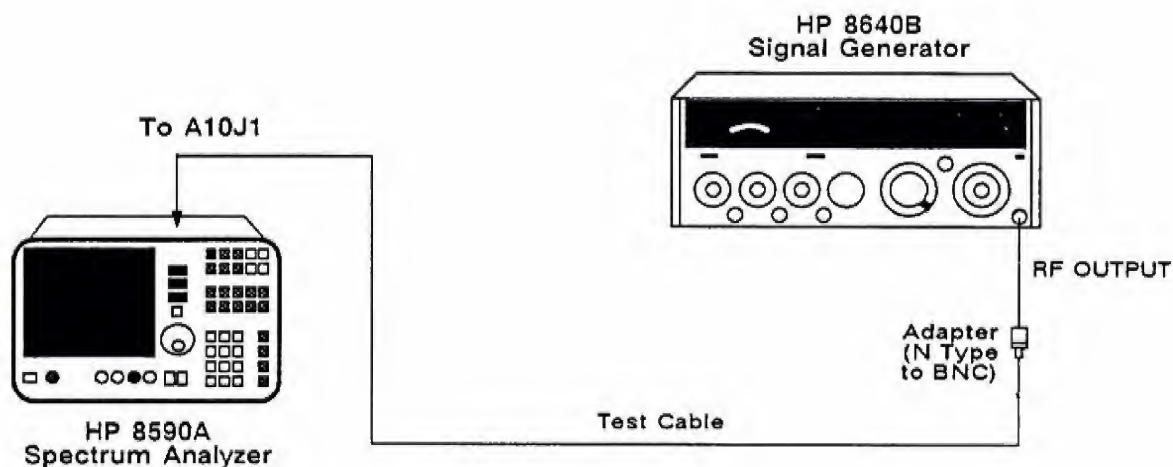

Figure 2-3. Second IF Bandpass and Bandpass Filter Adjustment
3. Remove the W15 blue cable from the second IF BPF input, A10J1. Connect the signal generator through the test cable to A10J1, as shown in Figure 2-3.